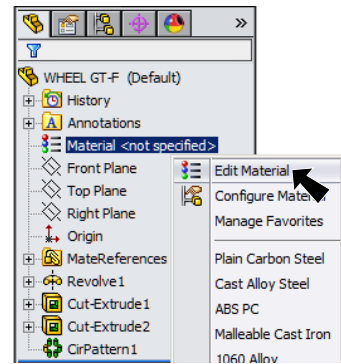

Fig. 20
Step 1. Right click Material  in the Feature Manager and click Edit Material, Fig. 20.